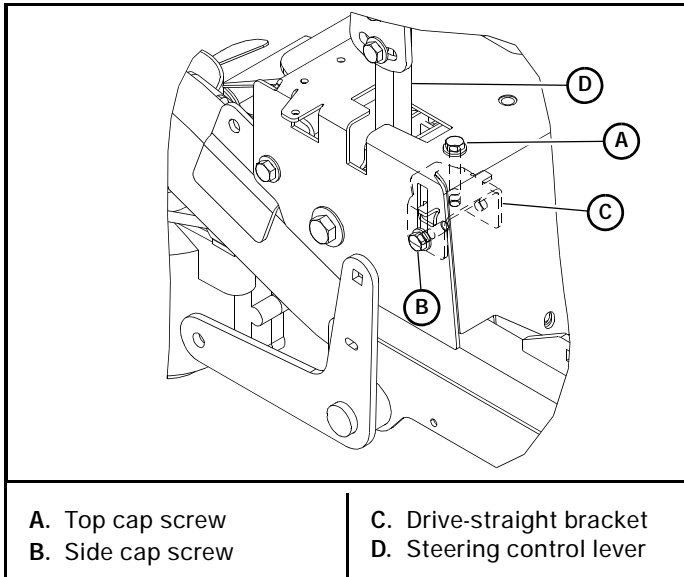

Figure 4-10
7. Loosen the side cap screw on the outside of the steering cover on the side that is rotating too fast. Tighten the top cap screw to adjust the drive-straight bracket up. This allows the steering control lever to make contact with the drive-straight bracket sooner. Repeat until both drive wheels are rotating at the same speed. Figure 4-10
8. Tighten the side cap screws on both the left and right sides to lock the drive-straight brackets in place. Snug the top cap screws to prevent loosening during operation. Figure 4-10